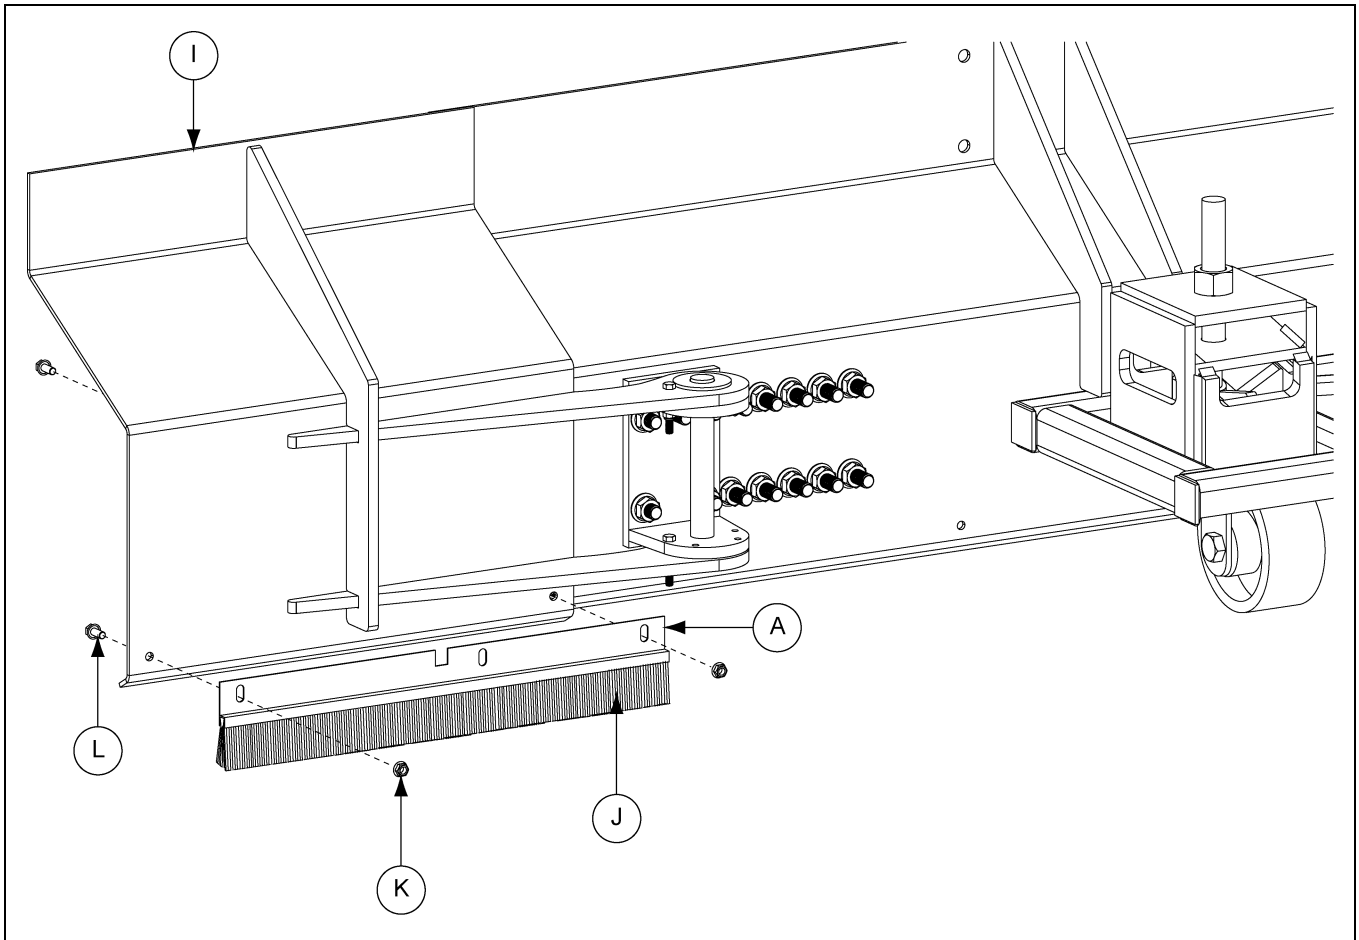

Figure 4W
10. Install brush assembly (A and J) to plow (I) using hex bolts (L) and flange nuts (K). (See Figure 4W.)